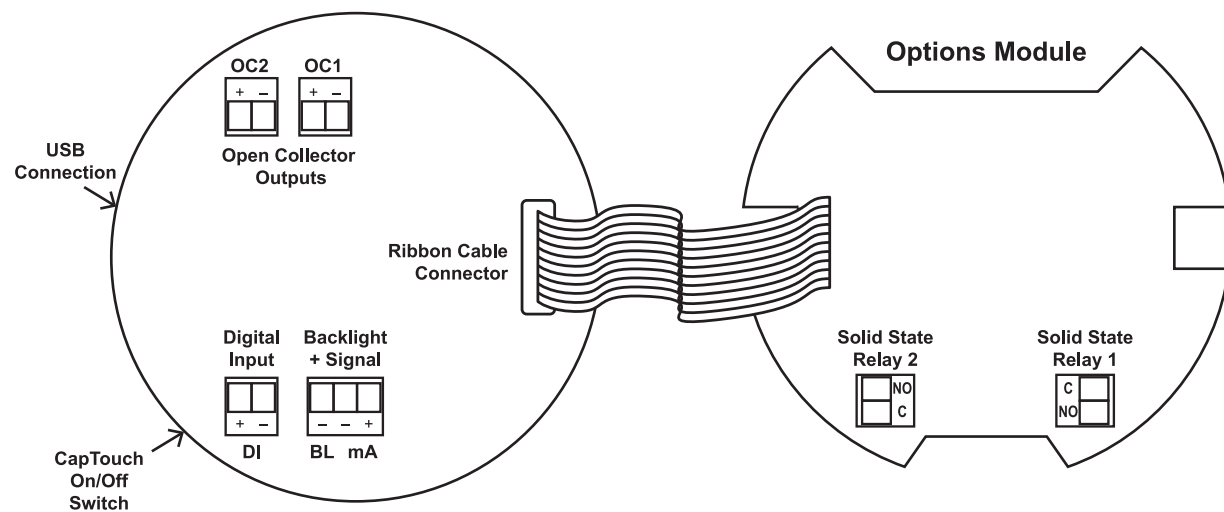

Figure 5. Connector Labeling for PD6928-HA-##-L2N
Relay connections are made to two-terminal connectors, as shown on *Figure 5*, page 23. Each relay's C terminal is common only to the normally open (NO) contact of the corresponding relay.